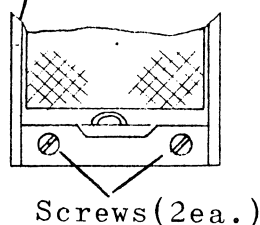

Fig.4
3. Disconnect the Cds lead wires.(Fig.4)